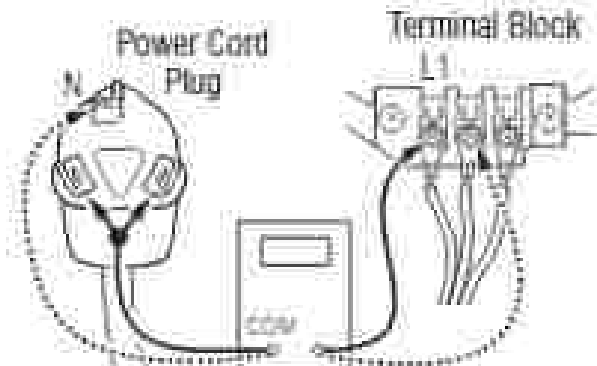

Figure 2 - Plug-terminal connections for electric dryer
ACU CONNECTORS (FIGURE 2)
3. With an ohmmeter, check for continuity between the neutral (N) terminal of the plug and the center contact on the terminal block. See Figure 2.
4. In a similar way, check which terminal of the plug is connected to the left-most contact on the terminal block and make a note of it. This will be L1 (black wire) in the wiring diagram. See figure 2.